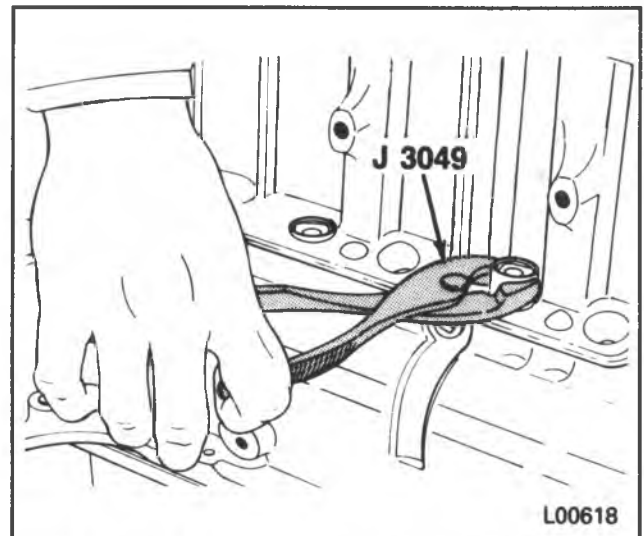
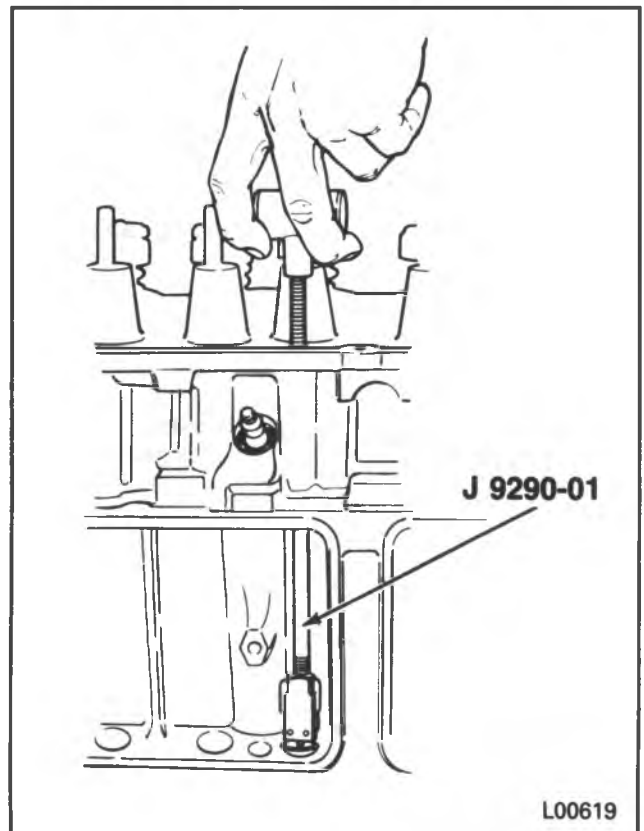

Figure 8 — Removing The Hydraulic Lifter
Figure 9 — Removing The Hydraulic Lifter
Remove or Disconnect (Figures 8 and 9)
- A stuck hydraulic lifter can be removed using J 3049 (figure 8) or J 9290-01 (figure 9).